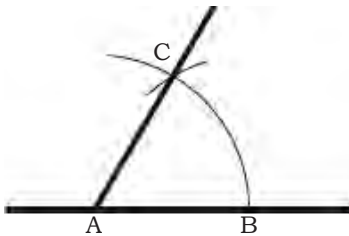

Fig. 1.8: Constructing an angle of  $60^\circ$
1. Using a scale draw a straight line and mark point A on it as shown in Fig. 1.8.